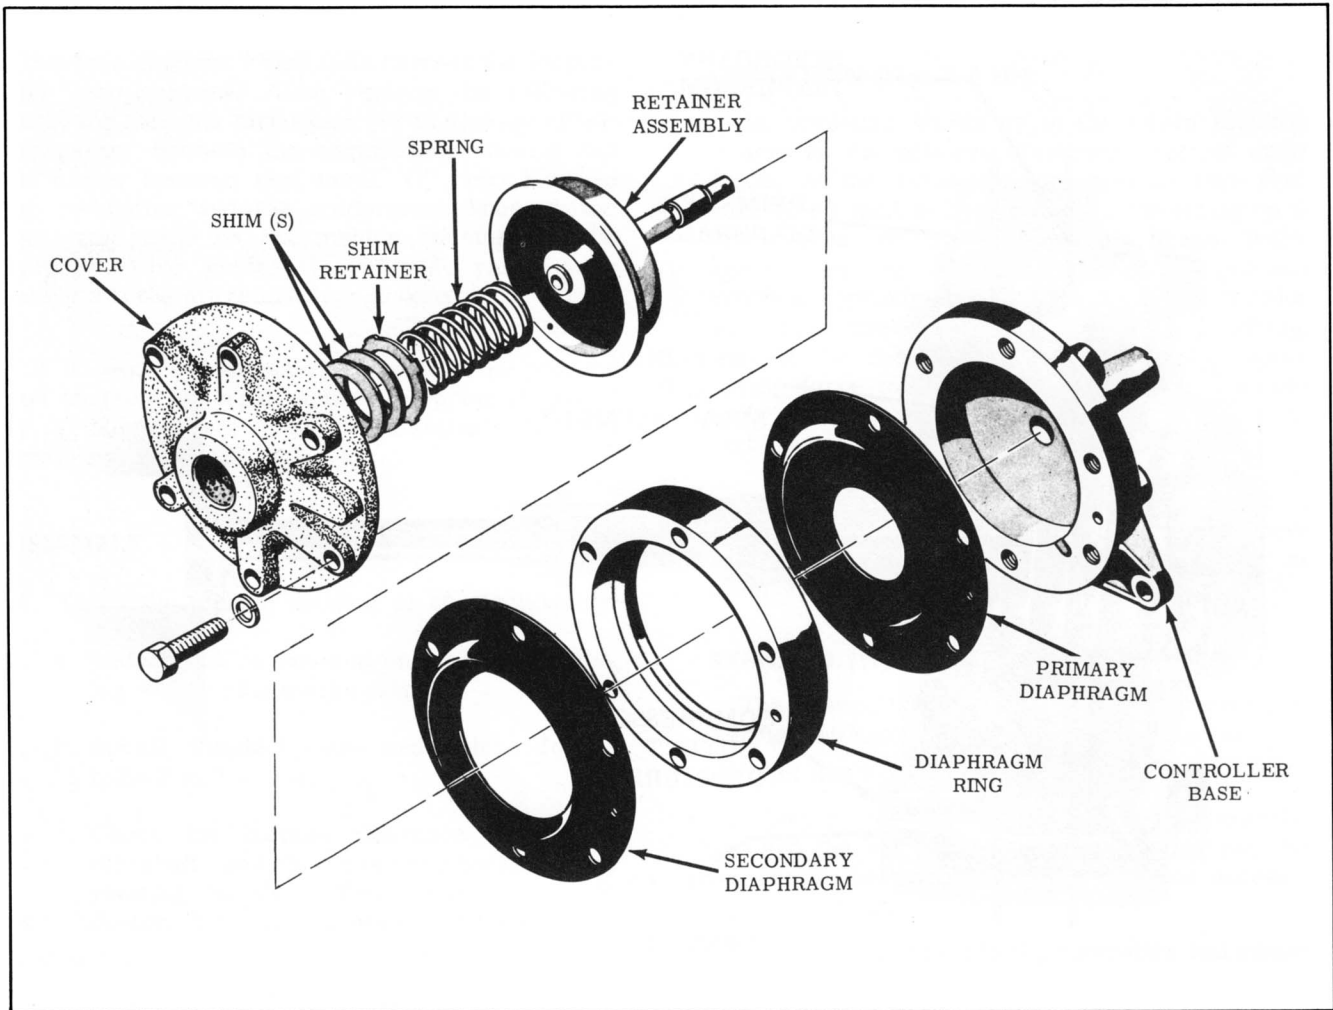

Fig. 8-112 Exploded View of Controller Assembly
DISASSEMBLY (Fig. 8-112)
7. Clamp in brass jawed vise as shown in Fig. 8-112.